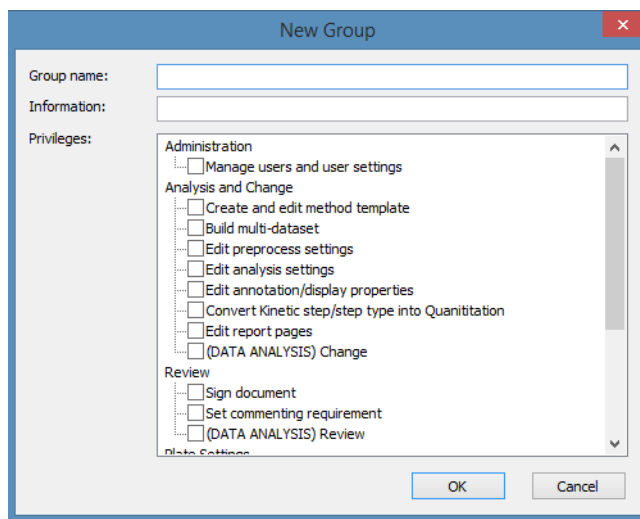

Figure 4-64: New Group Dialog Box
2. Click **New Group** to display the New Group dialog box (Figure 4-64).